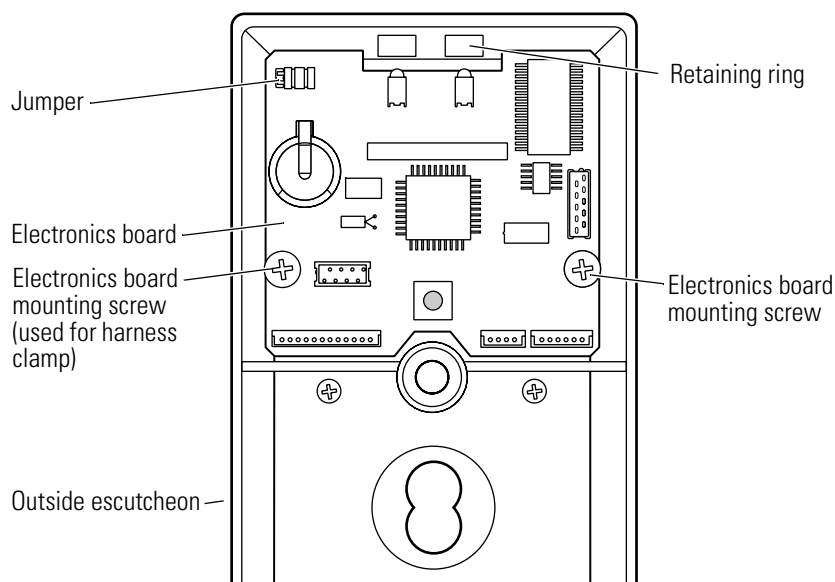

Figure 9.14 Removing and reinstalling the proximity control electronics board
2. Remove and save the electronics board mounting screws. See Figure 9.14.
Note: The jumper shown in Figure 9.14 must be installed in order to use an ABA card format with a proximity card reader. This jumper must be removed to use a Weigand card format.